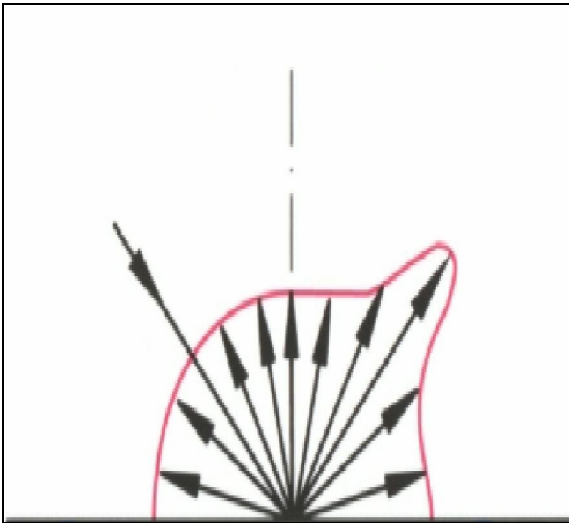
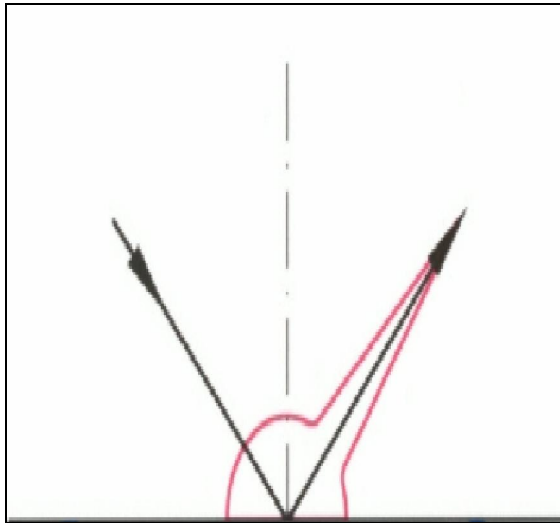

Figure 1: Lambertian reflection
Figure 2: Specular reflection
2. Figure 1 and Figure 2 taken from: